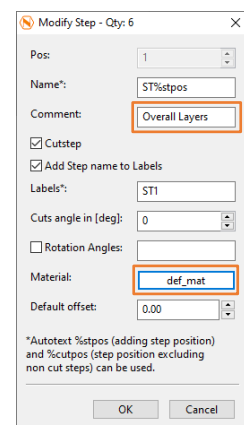

Figure 225
10. The first six steps are used for our overall layers. Write “Overall Layers” into to comment textbox (Figure 225). Further change the material for the cuts of those steps by clicking on the Material button .